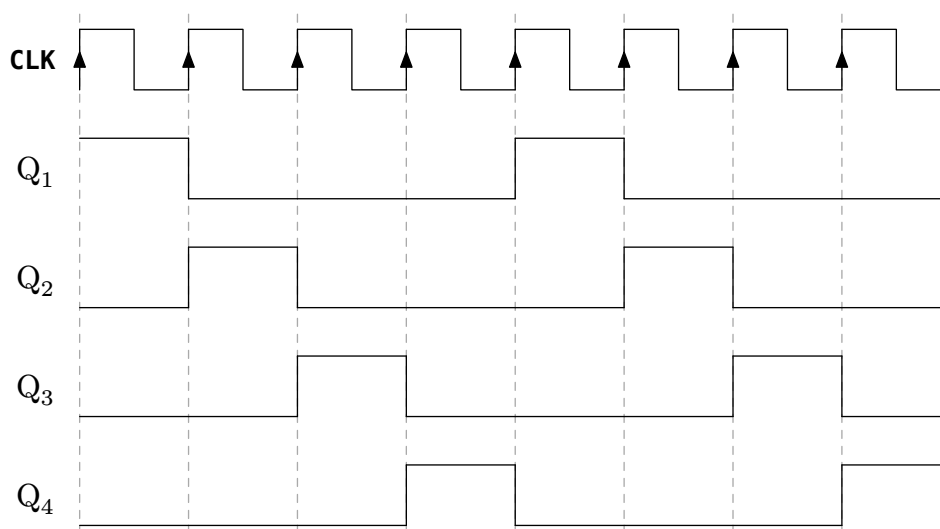

Figure 5: Timing diagram of the ring counter
1. The ring counter correctly counts in the order $\{1000, 0100, 0010, 0001, 1000, \dots\}$. The output in the oscilloscope resembles Figure 5.